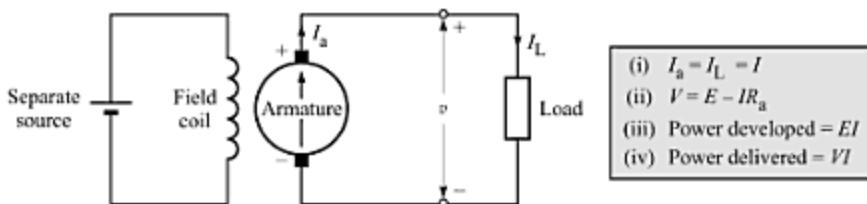

Fig. 16.8 Separately excited dc generator.
(1) Permanent Magnet Generators These do not find many applications in the industry, because of their low efficiency. However, low-power, low-cost, small size machines do use permanent magnet.
(2) Separately Excited Generators As shown in Fig. 16.8, the field coils are excited from a storage battery or from a separate dc source.